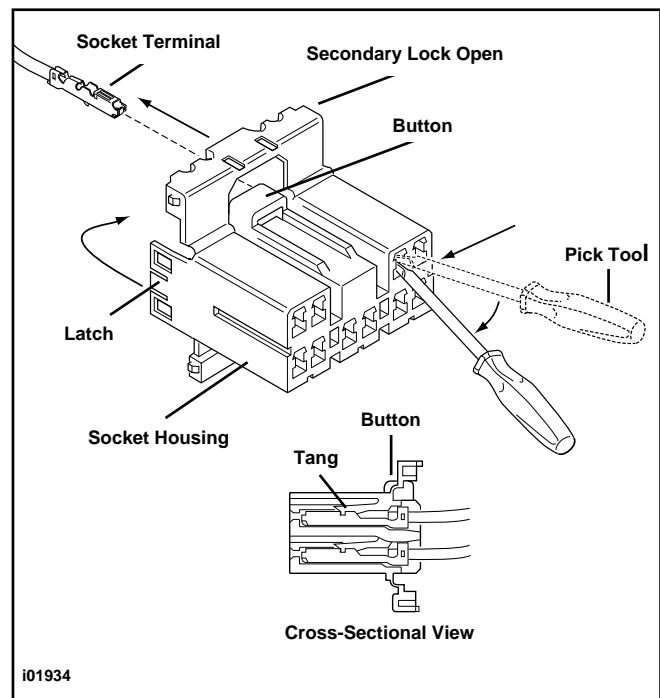

Figure 4. Remove Wiring from Connector (Typical)
- a. See Figure 4. Bend back the latch slightly and free one side of secondary lock, then repeat the step to release the other side. Rotate the secondary lock outward (open) on hinge to access terminals in chambers of connector housing.